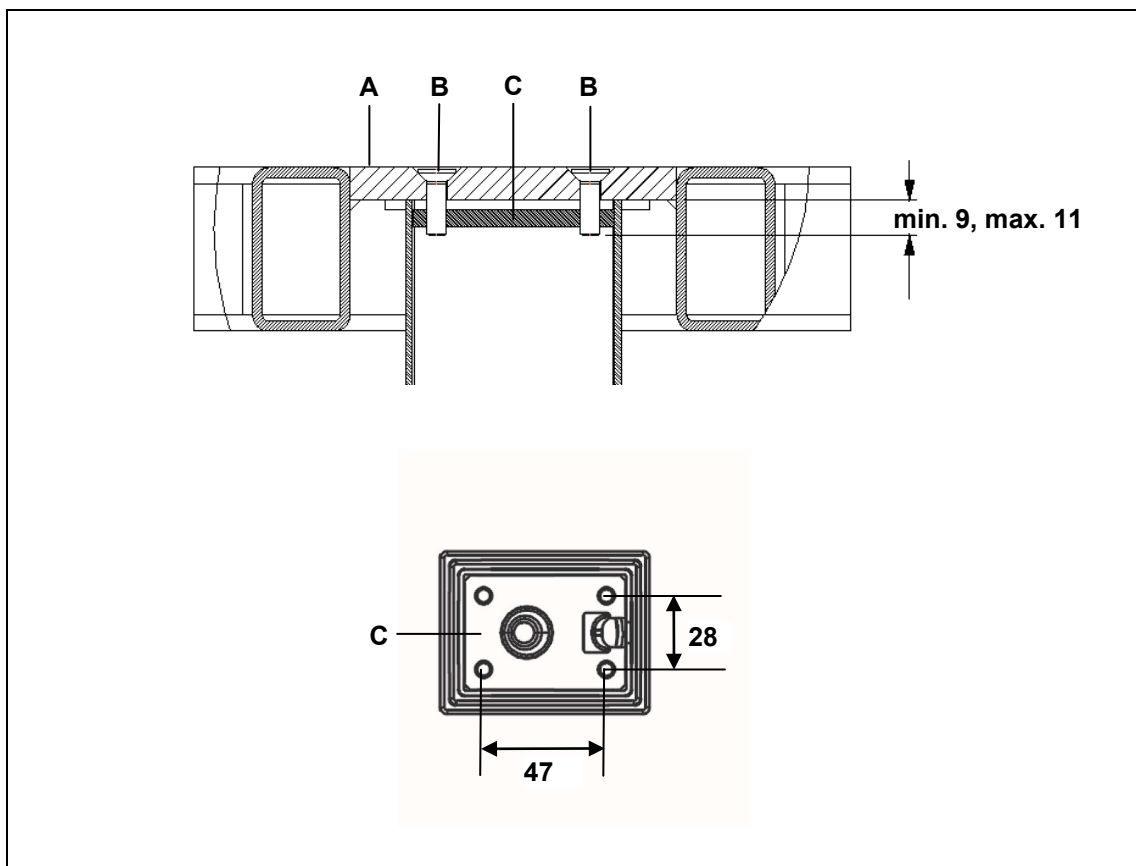
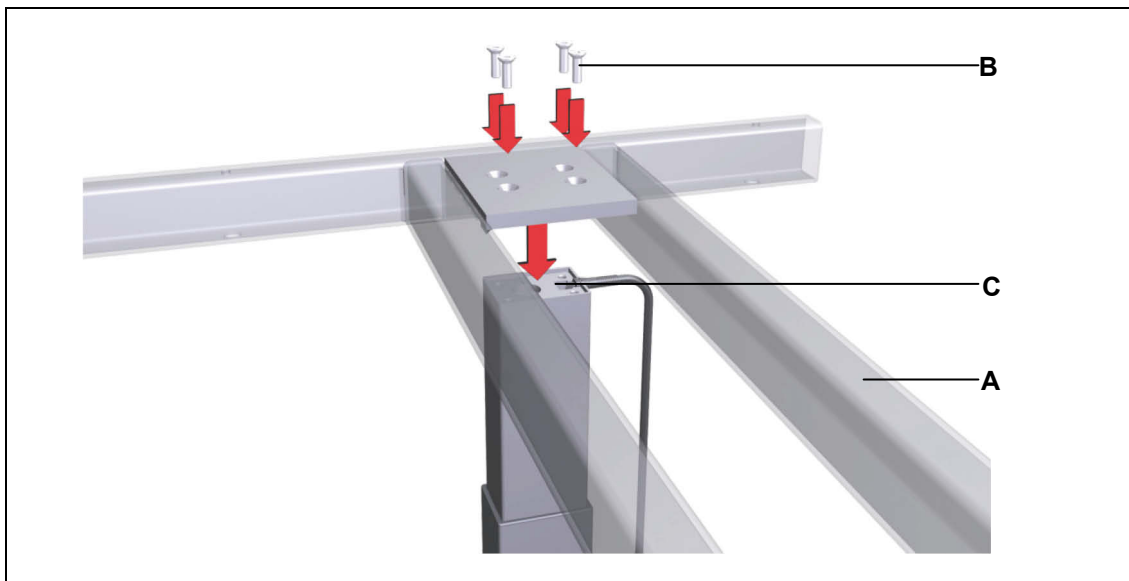

Figure 8 Mounting the table frame (dimensions in mm)
Figure 9 Mounting table top
- Use M6 screws (grade 8.8) of suitable length so that the depth is at least 9 mm and a maximum of 11 mm, as shown in Figure 8 (screw length = thickness of the mounting plate + min. 9 to max. 11 mm). The tightening torque must not exceed 10 Nm.
- 1 Set the table frame so that the holes are over the lifting column. Use four screws to attach the table frame to the head end of the ID21 lifting column, as shown in Figure 9 (maximum tightening torque is 10 Nm). The mounting dimensions are shown in Figure 8.